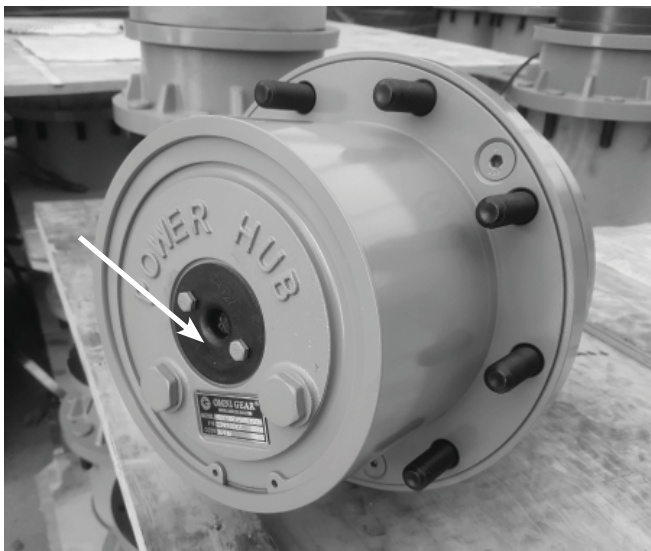

Figure 9.10
- At the rear drive wheels, remove the two bolts from the disconnect plate. Turn the plate over so the nipple points inward. Reinstall the two bolts (see Figure 9.10).